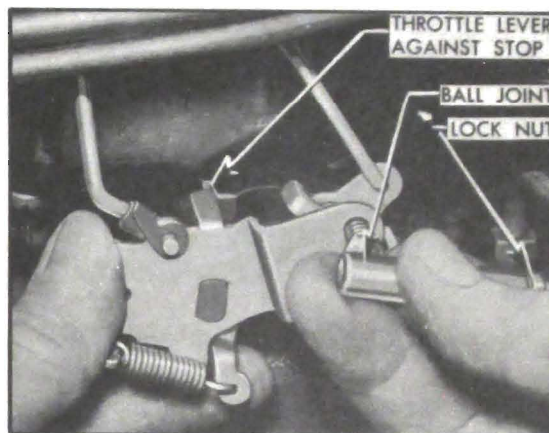

Figure 3-8—Throttle Rod Adjustment—Synchromesh
2. While a second man presses accelerator pedal firmly against the floor mat, which must be in place, adjust the ball joint on throttle operating rod so that the screw will just enter the hole in throttle lever. On *Carter* Carburetor the upper hole in throttle lever is used. See figure 3-8.